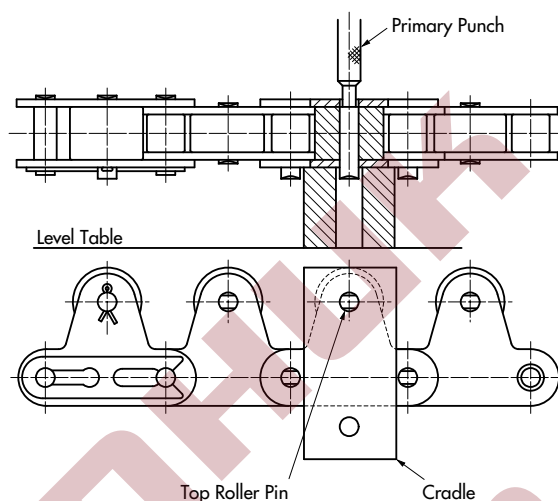

Figure 16: Removing Top Roller Pins
- 5) Change the setting of the cradle as shown in Figure 16 to remove the top roller pin. (When top rollers are not attached to the outer link, this procedure is not necessary.)